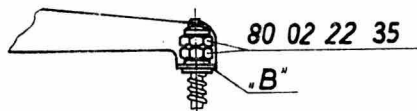

fig. 9
- Set stretch seam at adjusting point "B" (fig. 9)